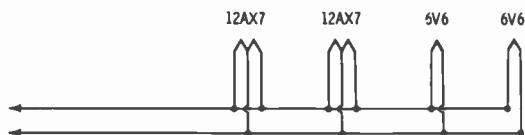

Fig. 4-11. Parallel connected filament circuit.
There are two other secondary windings shown on the power transformer. One is a 5-volt (AC) winding designed to power the 5-volt filament of the rectifier tube. The other winding provides 6.3 volts (AC) and powers the filaments of all the other tubes in the set. The filament winding outputs are marked X since this is shown as the filament points for the tubes. This method is less confusing than actually showing the connections for the filaments on the schematic. Another method is to leave the filaments off the rest of the schematic entirely, showing them connected to the filament winding itself. This type of arrangement is shown in Fig. 4-11.
Tubes have various types of filaments requiring different voltages, depending on the size and type of the tube. Most tubes made for use with transformer power supplies have 6.3-volt filaments, and they are wired in parallel, as shown in Fig. 4-11. A slight variation is the 12-volt tube, such as the 12AX7 shown in the parallel filament string in Fig. 4-11. This tube has a 12.6-volt filament with a center tap so that it can be used as a 12-volt tube or a 6-volt tube. The connections made in the illustration are for 6-volt operation. Tubes for AC/DC radios are wired in series